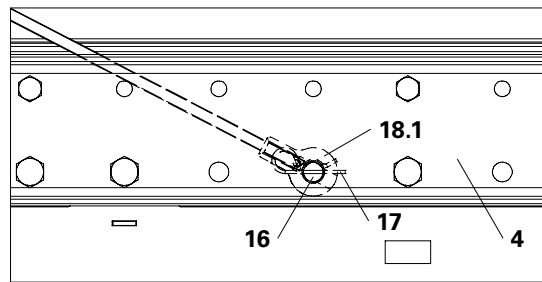
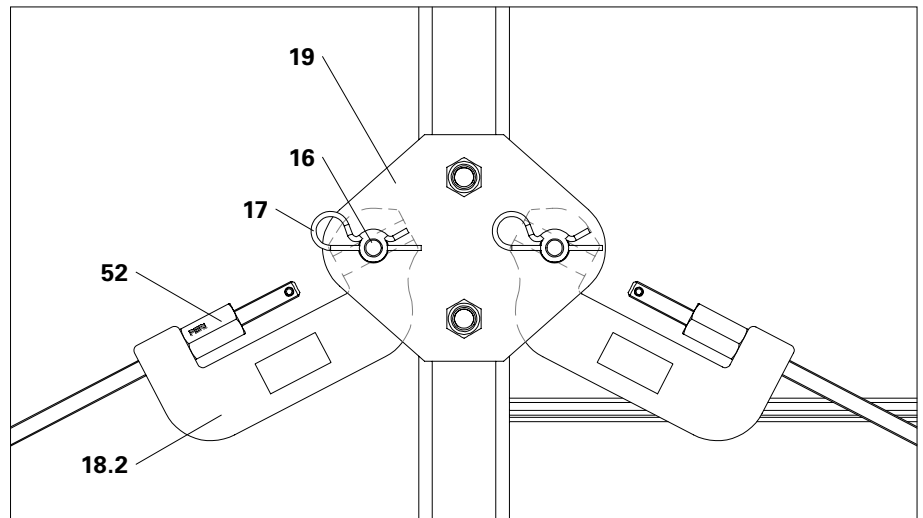

Fig. B4.13a
Fig. B4.13b
1. Insert bracing with Eye Nut RCS DW 15 (18.1) into the Climbing Rail RCS 998 (4).
2. Attach Eye Nut RCS DW 15 (18.1) with Fitting Pins 26 x 120 (16) and secure with Cotter Pins 5/1 (17). (Fig. B4.13a)
3. Bolt on Articulated Spanner RCS DW 15 (18.2) between the Connection Plate RCS-MP (19) using Fitting Pins 26 x 120 (16) and secure with Cotter Pins 5/1 (17).
4. Tension Bracing RCS-MP by tightening the Hex. Nut DW 15 SW 30/50 (52). (Fig. B4.13b)